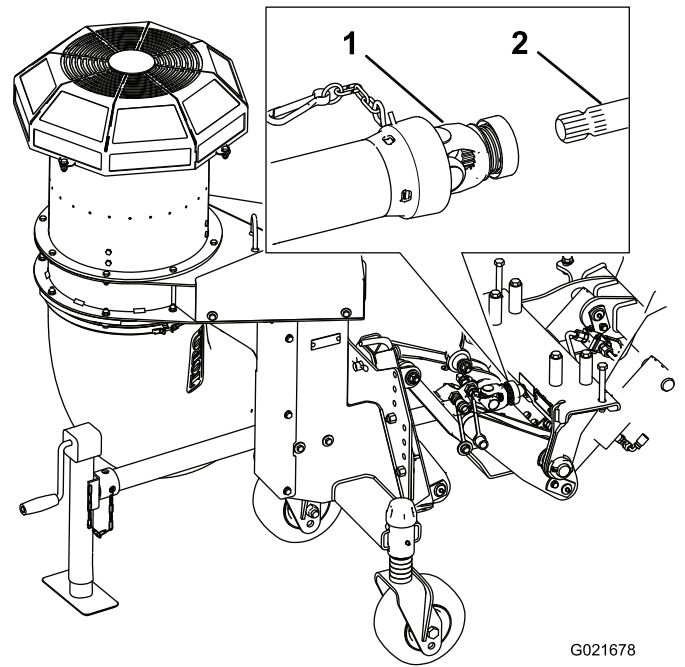

Figure 13
6. Secure the safety chain to the quick attach frame (Figure 13).
5. Install the drive shaft to the quick attach frame by sliding the quick coupler onto the shaft (Figure 13).